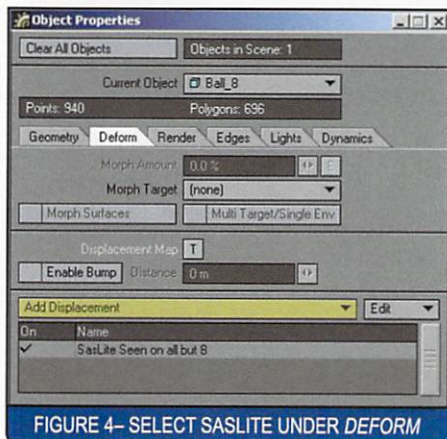

FIGURE 4- SELECT SASLITE UNDER DEFORM
8. Select Objects (O), Properties (P), and then under the Deform tab, click Add Displacement to open the popup menu, and select SasLite. *SEE FIGURE 4.*